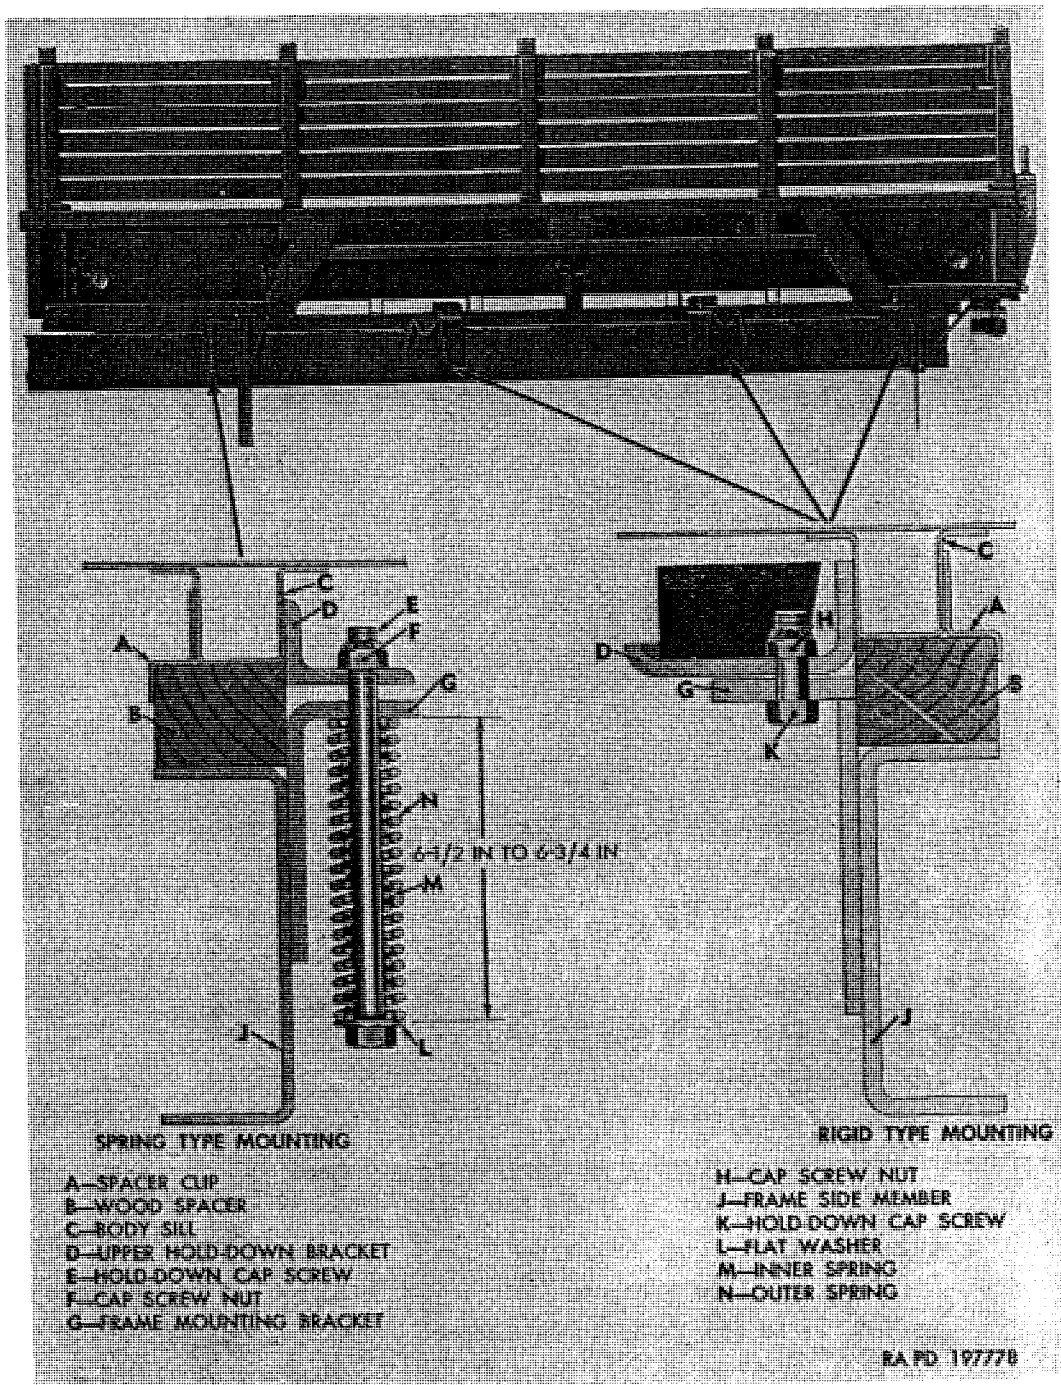

Figure 334. M135 cargo body mounting.
a. M135 Cargo Body (fig. 334). Body is mounted to frame side members as shown in figure 334. Dual spring-type mounting is used at each front corner of body. Three rigid-type mountings are used at each side in addition to the spring-type front mountings.
- (1) *Tightening.* At intervals indicated in table V, mounting cap screws must be checked for condition and tightness. The